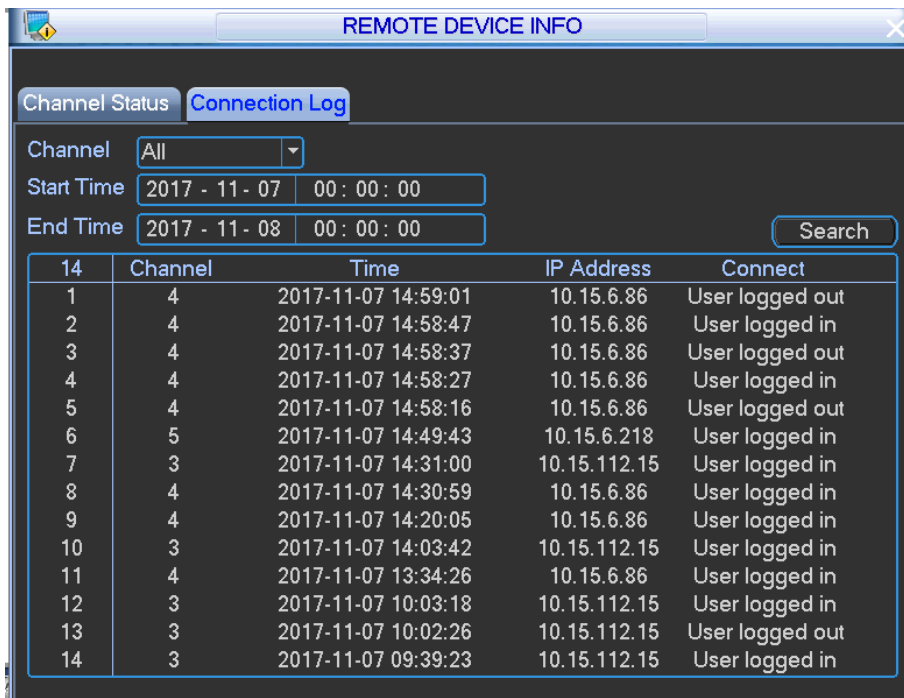

Figure 4-57
Step 1 On the main menu, from Info->Remote device info->Connection log, Enter connection log interface. See Figure 4-57.